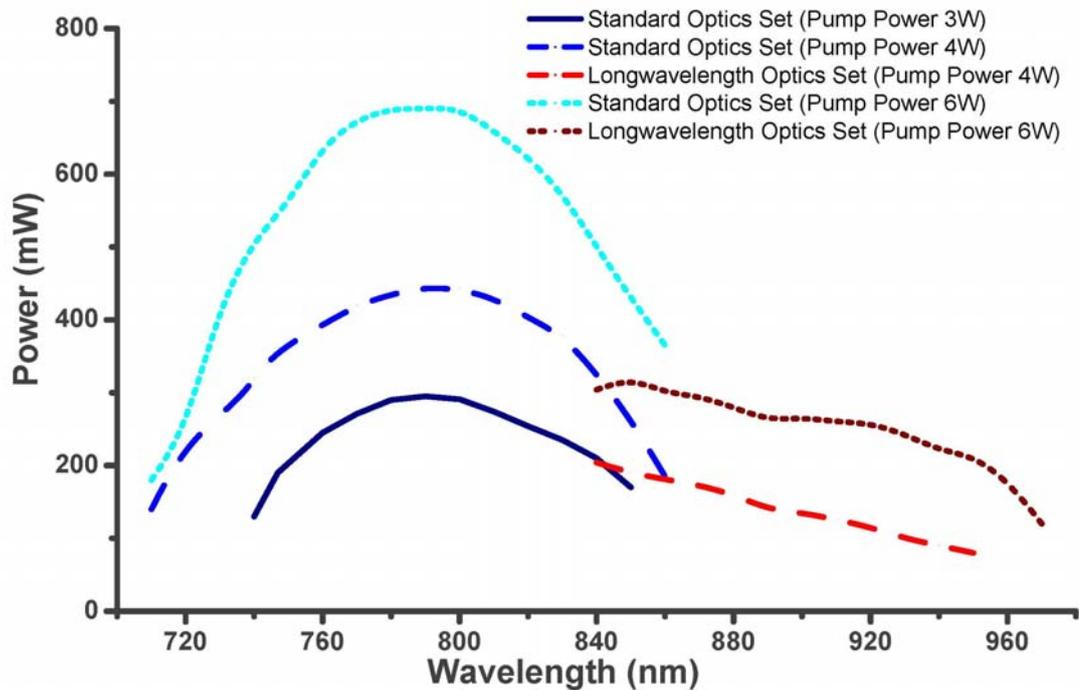

Fig. 18 Turning curves
76. To get a tuning of output wavelength (*Fig. 18*) and to control spectral bandwidth, flip the slit back into its place. Align the width and position of the slit so that the pulses easily appear at the same spectral position where they appeared without the slit. Write down the position of the prism and the slit. Then watching the spectrum and "pulse train" move the prism position only (the position of the slit will change also) to shift the pulse spectrum to the desired region. Verify that laser easily starts at new position. Repeat this steps until you reach the desired central wavelength.